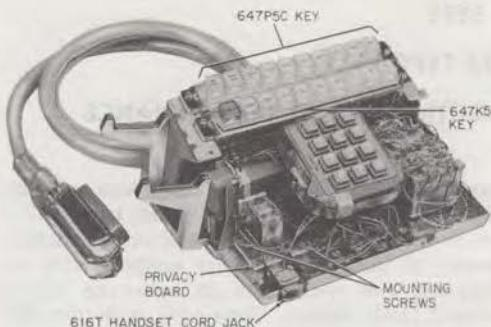

Fig. 2—2833BM Telephone Set Base
handset and H4DU-50 handset cord which will plug into a 616T jack mounted on the left front of the telephone set base (Fig. 2). Current production models of these sets also are equipped with an improved line switch and an automatic button restoral (ABR) feature. Some early production BM and CM sets were not so equipped.
2.02 The 833B (MD), or 833BM, 833DM and 2833B (MD), or 2833BM, 2833DM telephone sets are equipped with a 647K5 key in the lower key position consisting of a hold button, six line buttons, and three intercom buttons. A 647P5C key is located in the upper key position consisting of a RECALL button, a Privacy Release (PRIV RLS) button, and eight line buttons. The privacy circuit board is factory installed and wired (Fig. 2).
- (b) **Station Restriction (2833-type telephone set):** On telephone set terminal board, move two (G) leads from terminal 22 to 4 and move two (R) leads from terminal 4 to 22.
- (1) Mount privacy circuit board on the two standoffs located at the left front of the telephone set base (Fig. 2) using mounting screws furnished with the telephone set.
- (2) Refer to Table C for connections.
- (3) To test privacy circuit refer to 3.06.
- (d) **Disable Privacy Circuit (D-180486 Kit of Parts) 833-type telephone sets:** Remove (O) and (BK) leads of privacy circuit from the telephone set terminal 8 and 12, respectively, and insulate and store.